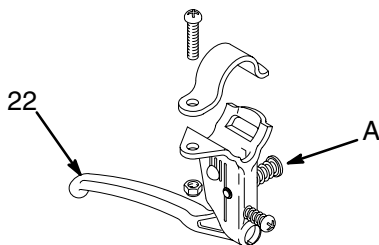

Fig. 17 0018
1. For a free moving caster: Squeeze and hold the caster lever (22).
2. To lock the caster in the free moving position, squeeze the trigger, push in and hold the the button (A) and release the trigger. See Fig. 17.